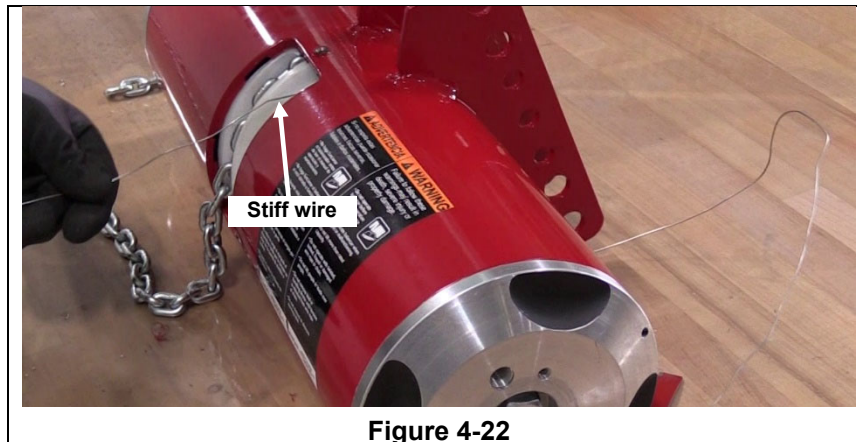

Figure 4-22
Step 16. Connect a stiff wire to the last chain link on new load chain and thread the wire around the top of the second to last groove from the left until it is visible through load chain end link access. (See Figure 4-22)